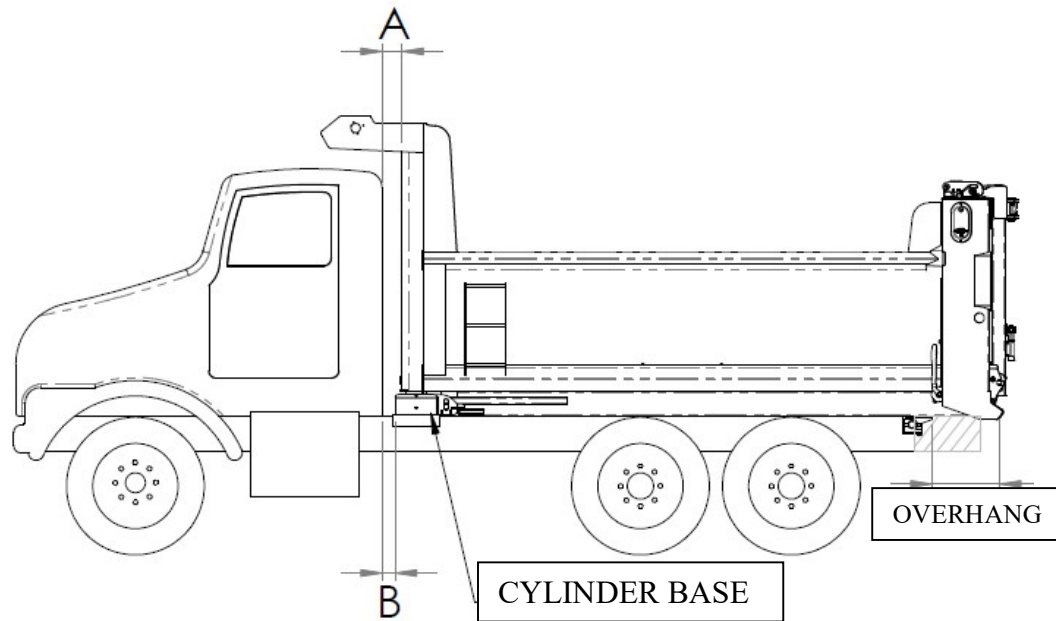

Fig. 1 – Cylinder base location
First, you have to determine the required distance (A) between the dump body and the cab. We suggest a 4 inches distance. However this measurement may vary because of exhaust, pipes, valves etc. See fig. 1.